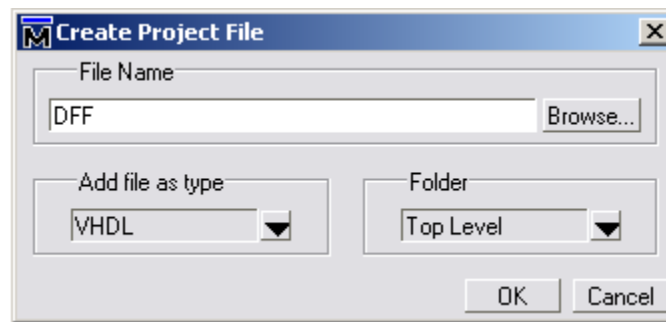

Figure 4: Create Project File Dialog
- The “Create Project File” dialog box appears. Enter an appropriate file name for your new file, choose “VHDL” in the “Add file as type” field, and choose “Top Level” in the “Folder” field (See Figure 4). For the tutorial, name your new file “DFF.” Hit OK.